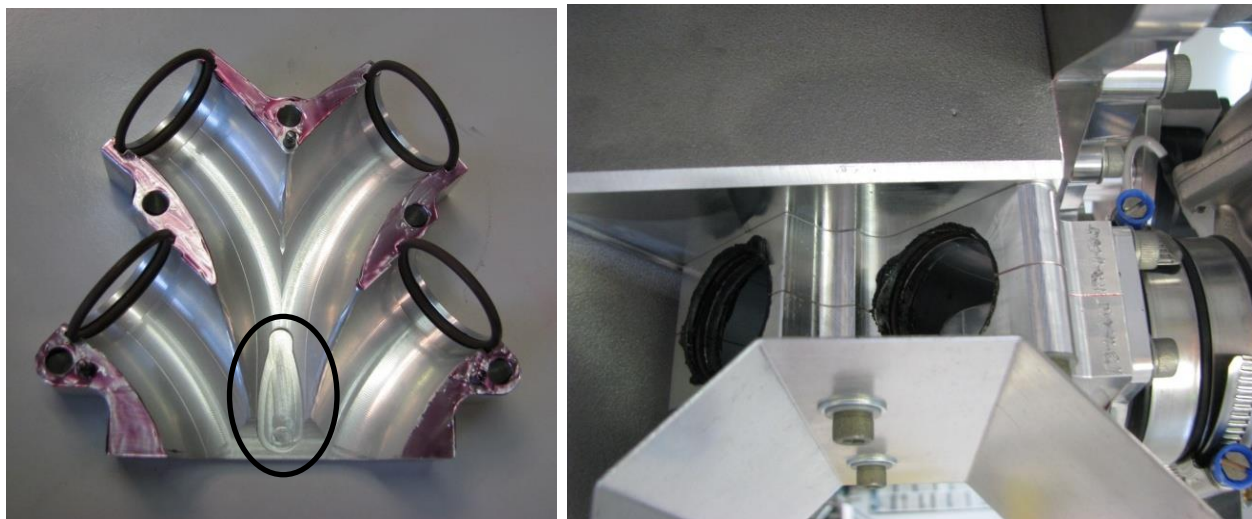

Figure 195 – Induction Manifold Installation
- Fit the diffuser(s) inside the plenum chamber halves. 2200 and most 3300 engines both use an “airfoil” diffuser shaped as circled in Figure 195 (Left). Later 3300 engines use two round diffusers.